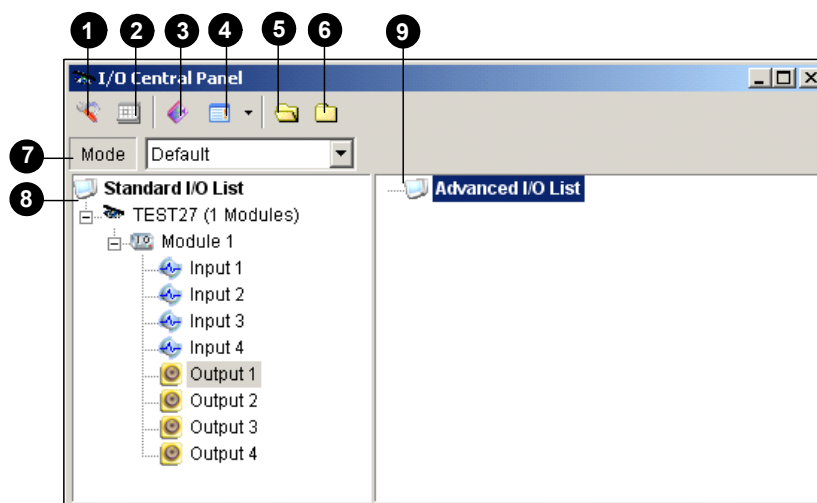

Figure 6-13
[Display Setting] You can define the nature of I/O devices by colors. Note that the setting only affects the **Detail** style of the Advanced I/O List (No. 4, Figure 6-13).
1. Click the Mode drop-down list (No. 7, Figure 6-13), and select **More Edit**. This dialog box appears.
4. To start the mode schedule, click the **Mode Schedule** button (No. 2, Figure 6-13), and then select **Mode Schedule Start**.
- To open the Quick Link window, click the **Toggle Quick Link** button. (No. 3, Figure 6-13).
1. To switch to the Icon style, click the **Advanced I/O List Style** button (No. 4, Figure 6-13) and then select **Icon**.